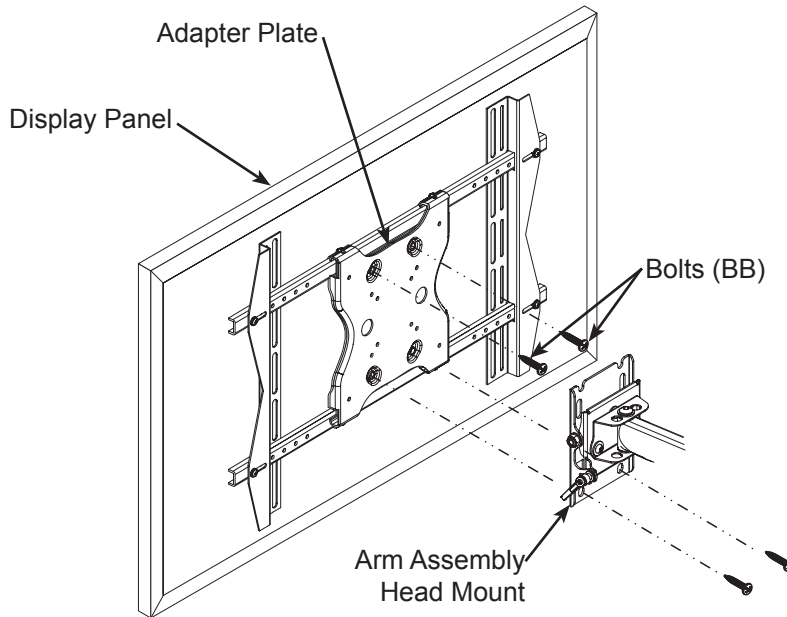

Figure 4
1. Insert two bolts (BB) into top two holes of Adapter Plate. Leave approximately 1/4" of exposed thread (do not fully tighten).
2. Lift the display and hook the two bolts (BB) in grooves on top of the Mounting Head (Figure 4).
3. Insert two bolts (BB) in bottom two holes of the Mounting Head, securing it to the Adapter Plate.